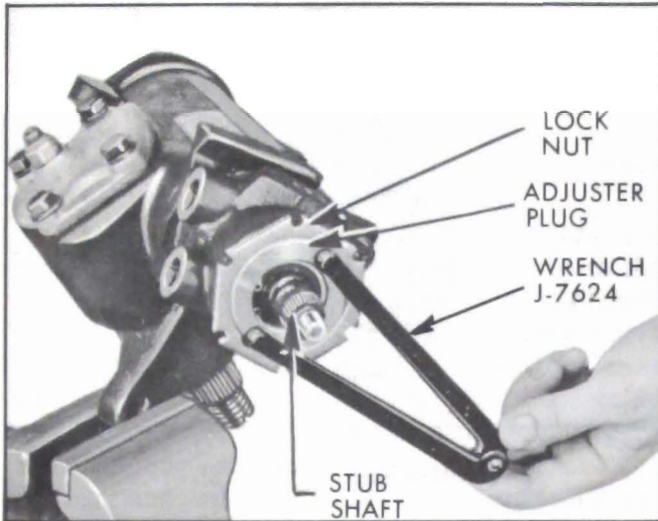

Figure 8-37—Removing Adjuster Plug Assembly
4. Loosen adjuster plug lock nut and remove adjuster plug using adjustable spanner wrench, J-7624. See Figure 8-37.